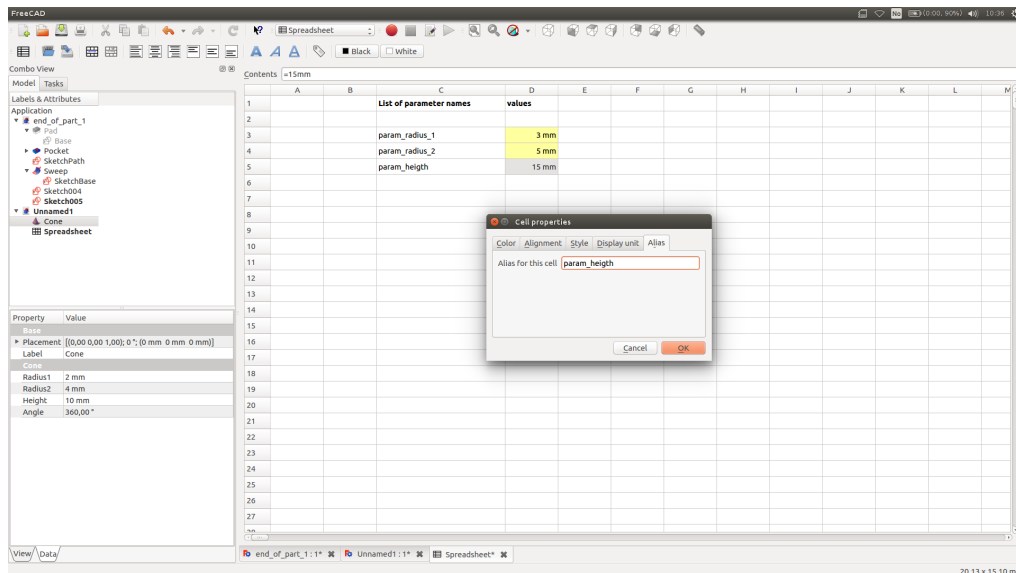

Figure 11
- The spreadsheet works like any Excel-like tool. Get to a result similar to the one shown in Fig. 11. This is an engineering tool, **units are important!!** Right click on the cells which each of the values, enter the **Properties** tool. There, go to the **Alias** tab and enter the name of the parameter. The cell will get yellow to indicate that it is linked to an alias. Do this for all cells.